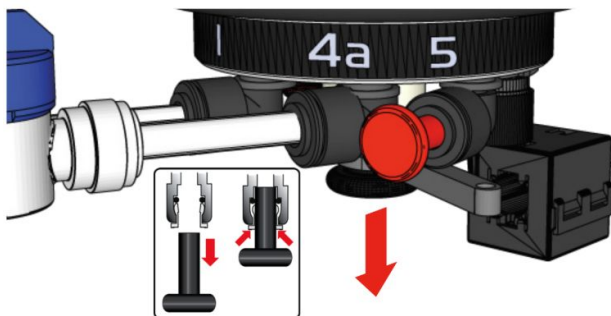

Fig 3
1. REMOVE the black transit plug from Reservoir High Flow Outlet (located under port 4a↓, see Fig 3)